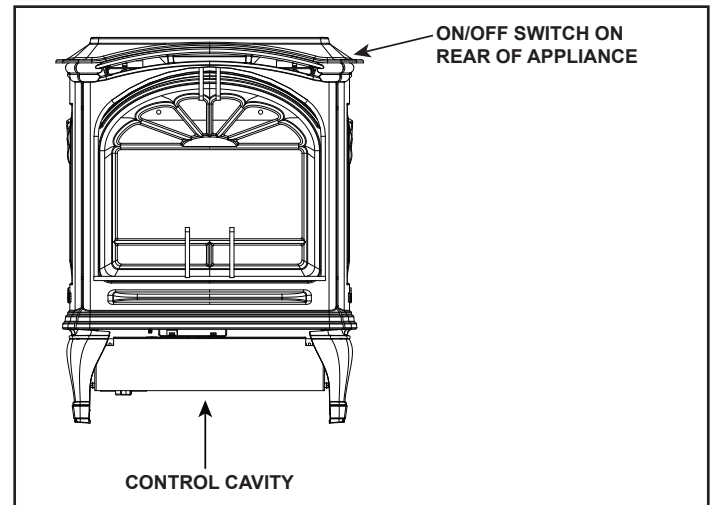

Figure 3.3 - ON/OFF Switch/Control Cavity Location
1. Access the control cavity of the appliance. See Figure 3.3 for location.
- Toggle the switch as you would under normal circumstances. See figure 3.3